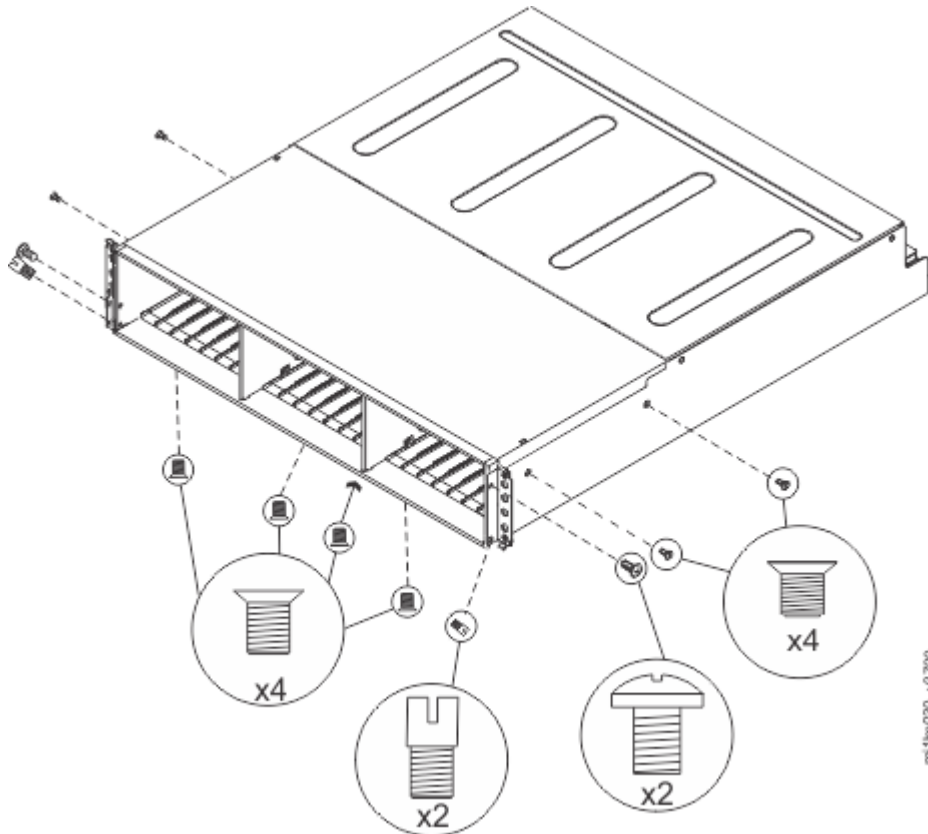

Figure 94. Removing the screws of an expansion enclosure assembly
12. Remove the four screws from the bottom of the enclosure (see Figure 94 on page 138). Remove the three screws that are near the front and the screw that is near the middle. Label these screws to indicate the location from which they are removed and place them aside.
14. Remove the three screws and one screw-pin on the right side that secure the midplane assembly to the enclosure (see Figure 94 on page 138). Label the screws to indicate the location from which they are removed and place them aside.
15. Remove the three screws and one screw-pin on the left side that secure the midplane assembly to the enclosure (see Figure 94 on page 138). Label the screws to indicate the location from which they are removed and place them aside. See Figure 4.